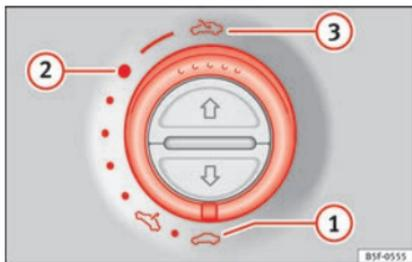

Fig. 11
- Opening: Turn the switch to position » Fig. 11 (3).
- Convenience position: Turn the switch to position » Fig. 11 (2).
- Closing: Turn the switch to position » Fig. 11 (1).